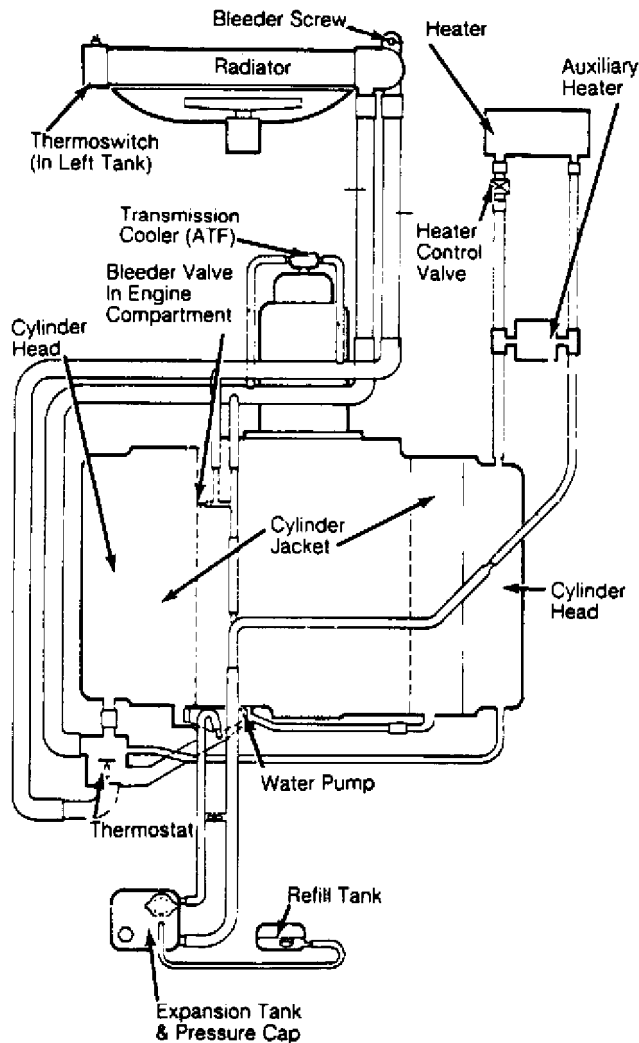

Fig. 1: Bleeding Cooling System
1) Set heater control valve to maximum heat. Open control valve for auxiliary heater (if equipped) under rear seat. Remove radiator grille and raise front of vehicle about 16". Open bleeder screw on upper right corner of radiator. See Fig. 1.
2) Open bleeder valve in engine compartment (turn counterclockwise). See Fig. 1. Fill expansion tank until full. Start and run engine at 2000 RPM. Keep topping tank until coolant flows from bleeder screw on radiator without any air bubbles. Add coolant until tank is full, and install cap on tank.